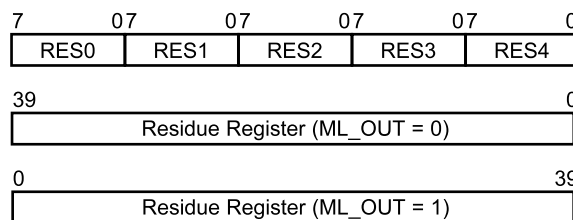

Figure 5-20 Mapping of the Residue Register
The polynomial and residue registers are mapped as five 8-bit registers. The mapping of the residue register is controlled by the ML_OUT bit of the LFSRCFG3 register, as shown in Figure 5-20.
- *ML_OUT*—set to shift data out of residue register LSB, and into MSB, clear to shift data out of residue register MSB, and into LSB. See Figure 5-20 for effect on RESx mapping.
the residue register to the RESx registers, as shown in Figure 5-20. The residue register can be initialized to all ones by setting the SET_RES bit in the LFSRCFG1 register.